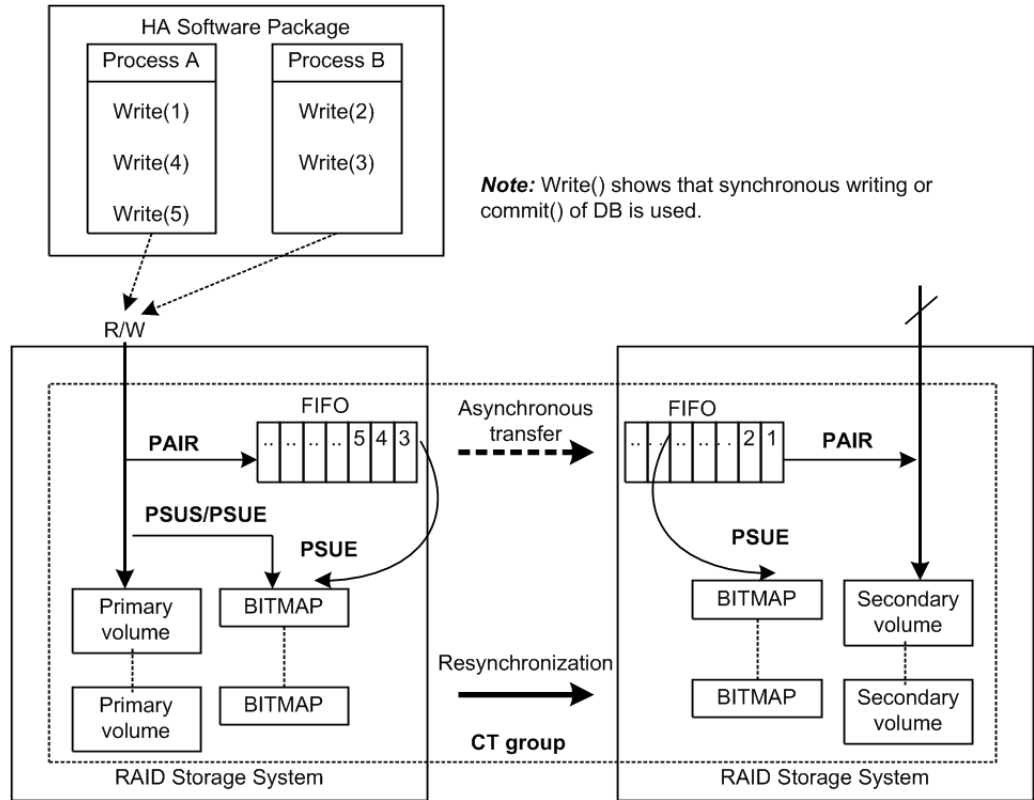

Figure 6-9 TrueCopy Async consistency groups
TrueCopy Async, Universal Replicator, and global-active device provide paired volumes that use asynchronous transfer to ensure the sequence of writing data between the primary volume and secondary volume. The sequence of writing data between the primary and secondary volumes is guaranteed within each consistency (CT) group (see Figure 6-9 TrueCopy Async consistency groups on page 6-25).